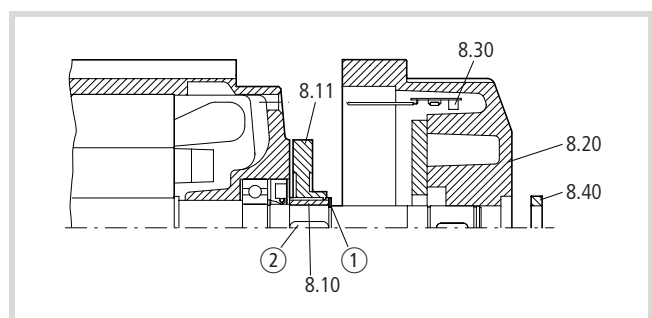

Figure 32: Motor with brake
- ▶ Insert the featherkey ② for the friction plate driver (8.10) (→ Fig. 32).
- ▶ Fit the friction plate driver (8.10) and secure it with the retaining ring ①.